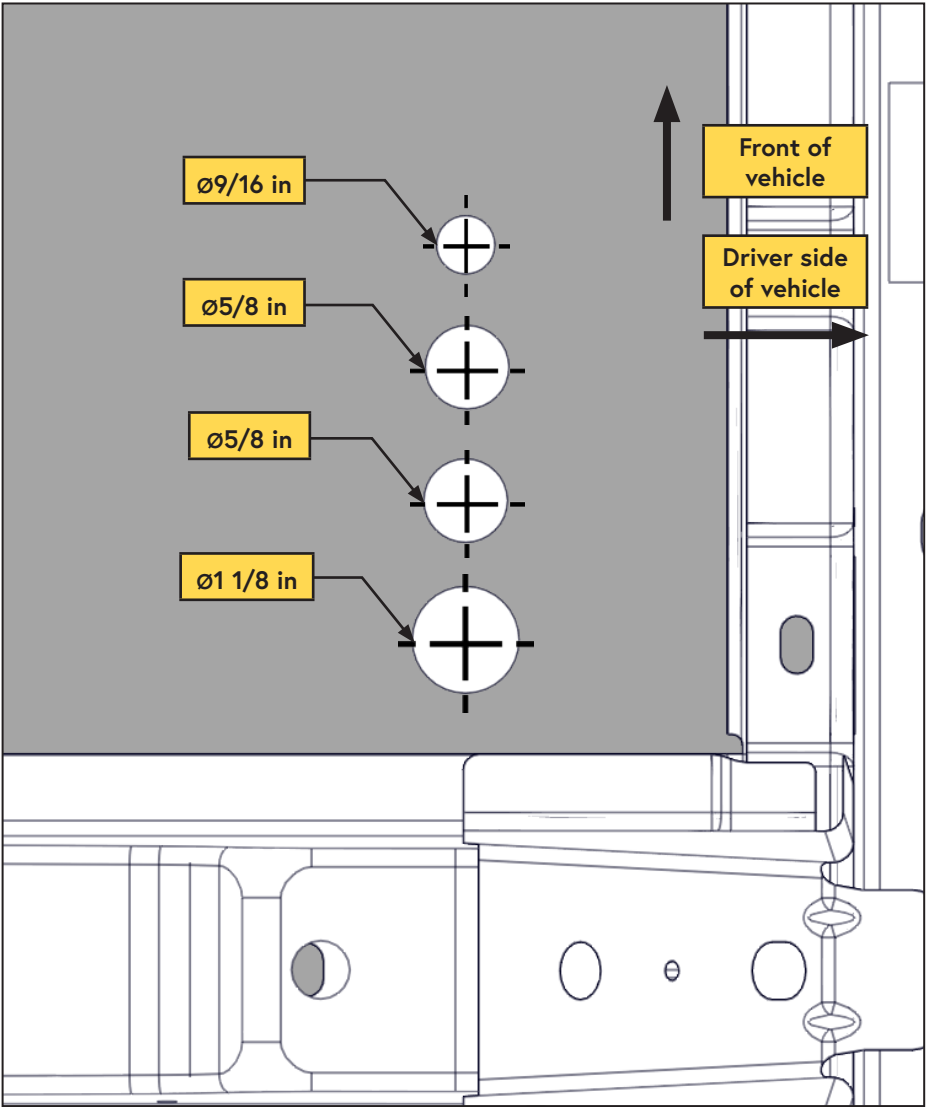
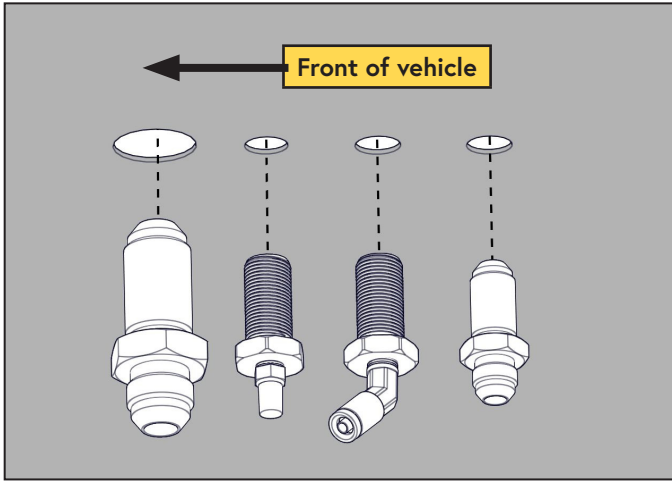
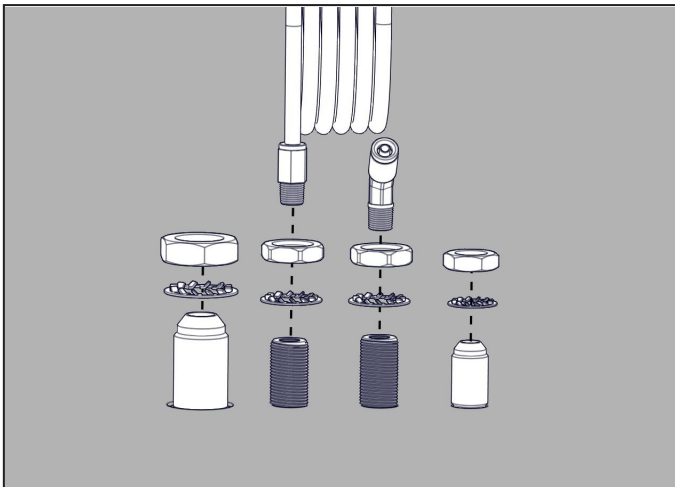

Figure 34 — Vehicle chassis (bottom view)
Figure 35 — Bulkhead fittings (bottom view)
Figure 36 — Bulkhead fittings (top view)
- Drill the bulkhead fitting holes using a drill, step drill or hole saw. Leave enough room between the fittings to allow access for a wrench (Figure 34, Figure 35, Figure 36).
- Fit the bulkhead fittings from the bottom of the hole to provide maximum ground clearance. Secure from the top with the supplied nuts (Figure 35, Figure 36)